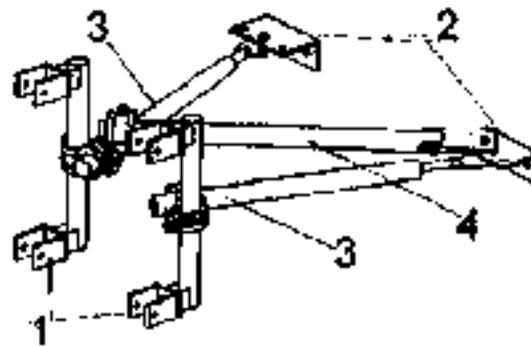

Fig. 3-75 Mast - anchoring
- 4 Mount the mast adapters (fig. 3-75, item 1) at the correct height onto the mast using 4x M14 bolt, quality 8.8. Lock the bolts with self-locking nuts, quality 8; tightening torque: 77.6 lb ft.
- 5 Mount the wall plates (fig. 3-75, item 2) to the facade as shown.
- 6 Mount the anchor tubes (fig. 3-75, item 3) between the mast adapters and wall plates. Mount the anchor tubes to the wall plates using 2x M16 bolts, quality 8.8.
- 10 Secure the shore tube (fig. 3-75, item 4) to the anchor tube using a coupling; tightening torque: 36.95 lb ft. Mount the shore tube to the wall plate, refer to the steps 6 and 8.